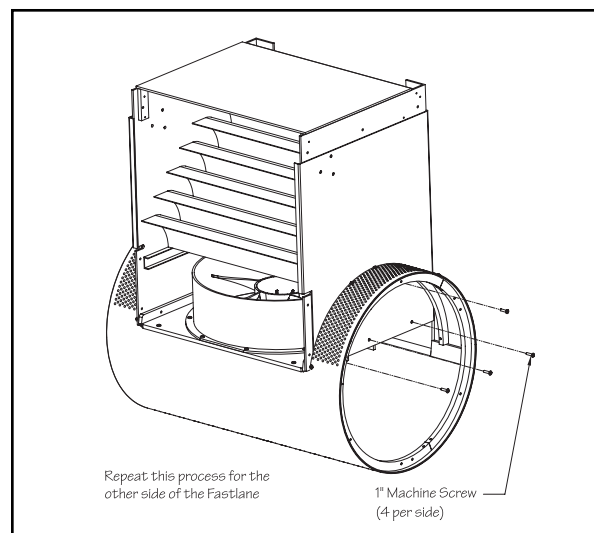

Fig. 6.4B
6.6 Use the provided stainless steel screws to attach the upper housing to the base. There will be 4 screws per side (total of 8). On each side of the housing, there will be 3 screws securing the upper housing to PVC motor mount support and 1 screw attaching the stainless steel reinforcing support to the housing just above the 3 previous screws (Fig 6.4B).